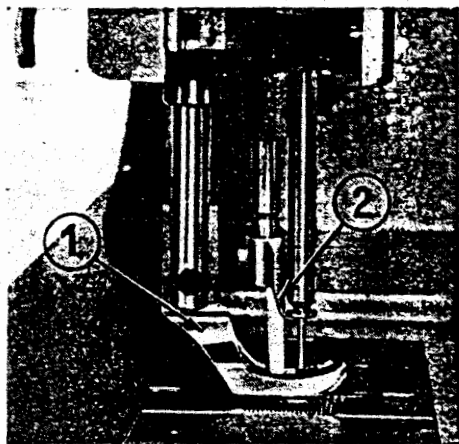

Fig. 13
The vertical stroke of the presser foot (Fig. 13 ①) and the upper feed (Fig. 13 ②) moving alternately is equal, normally, and the range of this stroke is adjusted by the thickness of the sewing cloth.